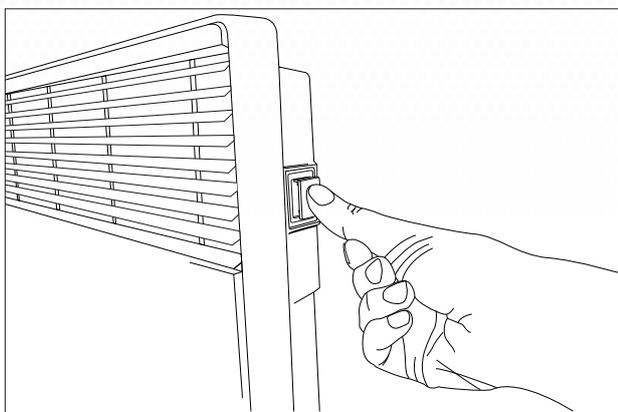

FIG:3
- Once the key is located into the T slot, push the key home until it is flush (see fig 3). Once the key is fitted the heater will be able to operate when the unit is calling for heat.